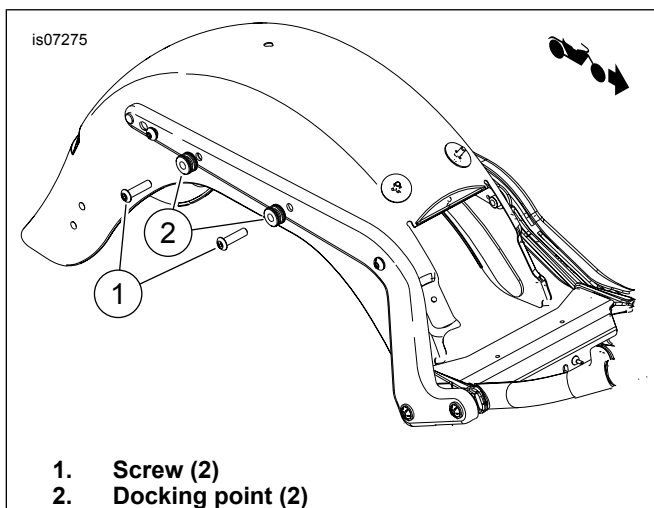

Figure 3. Docking Point Installation (Without Other Detachable Accessories)
WITHOUT Other Detachable Accessories: See Figure 3. Insert screws (1) through mini docking points (2). Install screws into fender support mounting bracket (inside fender). Tighten screws to 28–36 N·m (21–27 ft-lbs).